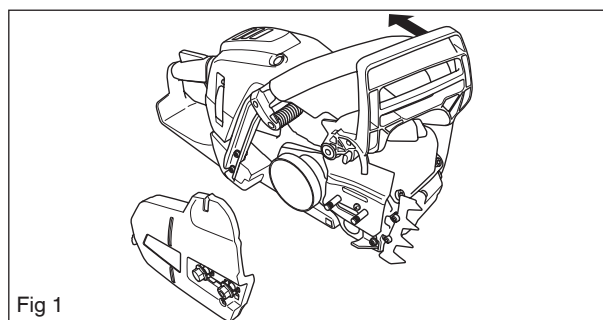

Fig 1
3. Loosen the bar nuts and remove the clutch cover, bar and chain, see fig. 1.